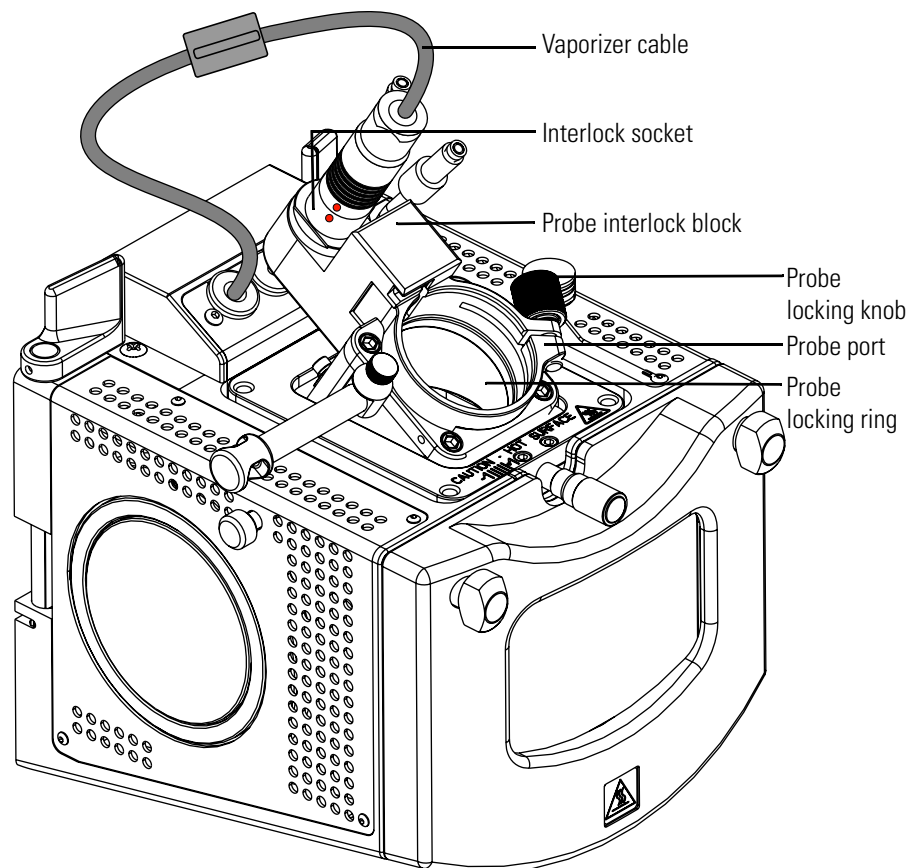

Figure 8-20. Ion Max API source housing without a probe
4. Turn the probe locking knob counterclockwise until the probe locking ring is opened to its widest position (Figure 8-20).
6. Lock the probe in place by turning the probe locking knob (see Figure 8-20 on page 8-35) clockwise until you feel resistance.
- Connect the sheath gas fitting (blue) to the sheath gas inlet (S).
- Connect the auxiliary gas fitting (green) to the auxiliary gas inlet (A).